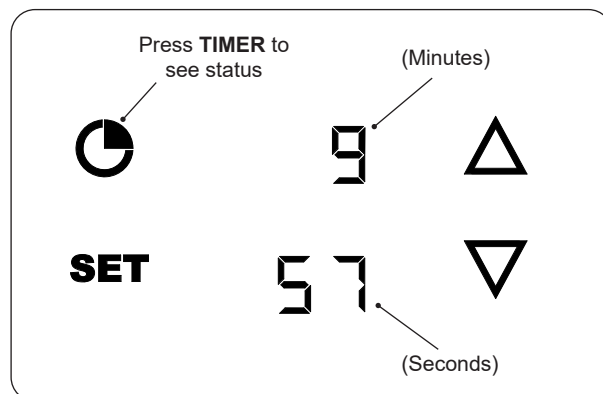

Fig. 32-2 Check timer status
- To check the timer status, press the **TIMER** button and the display will show the live countdown (for 5 seconds then, return to the default screen). See Fig. 32-2.
- The upper display indicates minutes and the lower display indicates seconds (see Fig. 32-2).